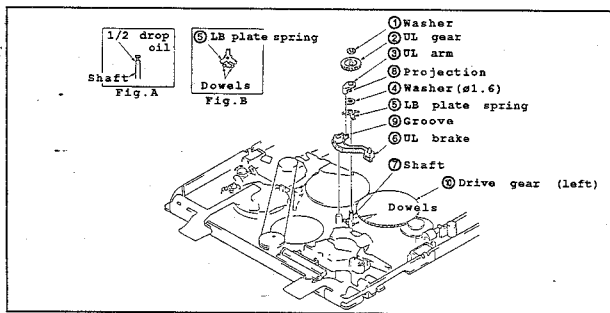

Fig. II-23
- Disassembling (Fig.II-23)
- (1) In the same procedure in "3-13", detach the switch lever.
- (2) To take off the UL gear ②, remove the washer ①.
- (3) Detach the UL arm ③, the washer ④ and the LB plate spring ⑤.
- (4) Take off the LB brake ⑥.
- Reassembling (Fig.II-23)
- (1) Install the UL brake ⑥.
- (2) Apply the 1/2 drop of oil to the shaft ⑦. (Fig. A)
- (3) As shown in the Fig.B, attach the LB plate spring ⑤ to the shaft ⑦. Then, attach the washer ④.
- (4) While matching the projection ⑧ with the groove ⑨ of UL brake ⑥, install UL arm ③ to the shaft ⑦.
- (5) Attach the UL gear ② to the shaft ⑦. Then, mesh it with drive gear (left) ⑩.
- (6) Secure it with the washer ①.
- (7) In the same procedures in "3-13", install the switch lever.
*Note: To prevent the LB plate spring ⑤ damaging, do not secure the washer ① forcibly.